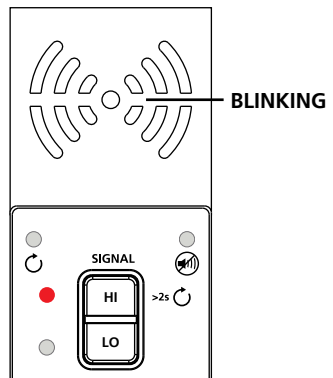

Figure 3.2b: Transmitter indicator showing signal in HIGH mode
3. Select HIGH signal mode by pressing HI for most applications. The Transmitter will appear as shown in Figure 3.2b. The LED display will quickly begin to blink.